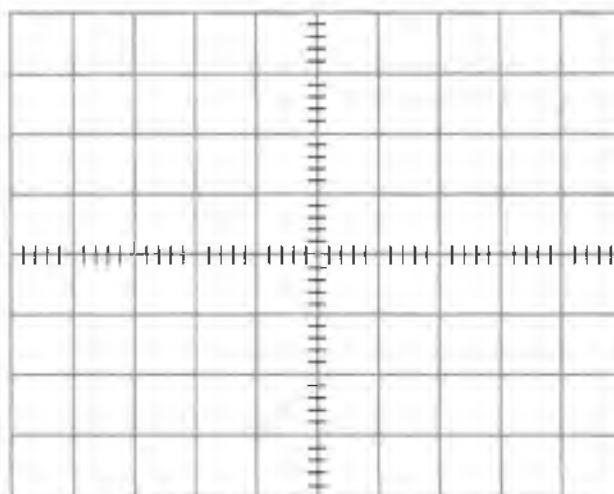

Figure 2
8. Accurately draw what you observe on the screen of the CRO in the graticule of Figure 2.